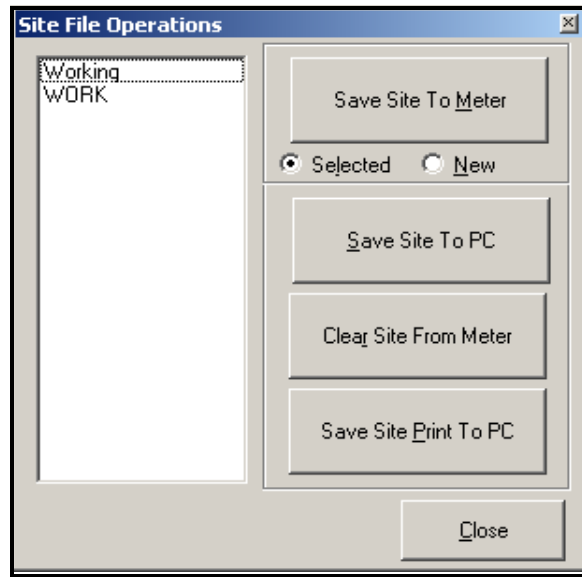

Figure 51: The *Site File Operations* Window
- Click on the [Site Files] button. The *Site File Operations* window (shown in Figure 51) opens.
1. Highlight the desired site in the left pane. (See Figure 51 on page 124.)
1. Highlight the site in the left pane. (See Figure 51 on page 124.)